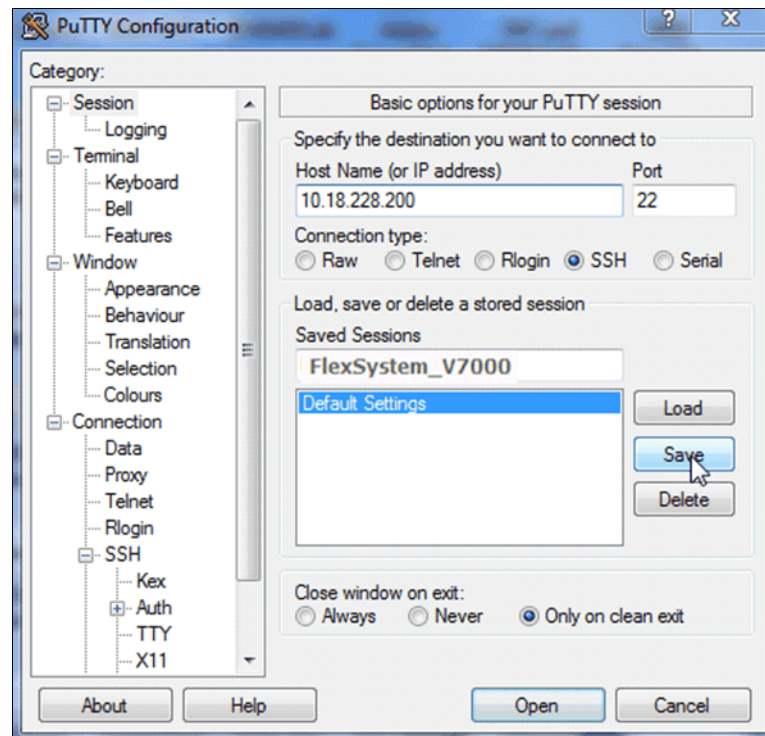

Figure A-14 Save Session
- Click **Save** to save the new session (Figure A-14).